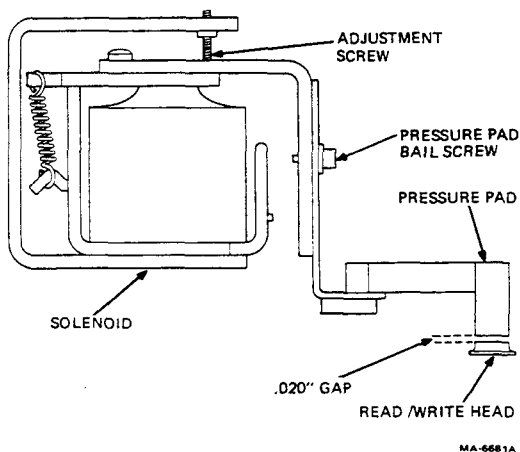

Figure 3-5 RX02 Pressure Pad Mechanism
8. Refer to Figure 3-5. If there is a pressure pad bail screw, loosen it. Move the bail so it is parallel to the carriage and the gap is the same at all tracks. Tighten the screw and perform step 6 again.